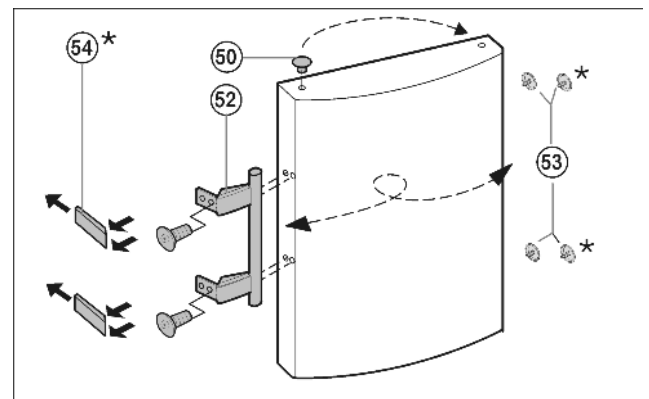

Fig. 14
- Lift the stopper Fig. 14 (50) out of the door bearing bush and transfer it.
- Detach door handle Fig. 14 (52), stopper Fig. 14 (53) and pressure plates Fig. 14 (54) and transfer to the opposite side.